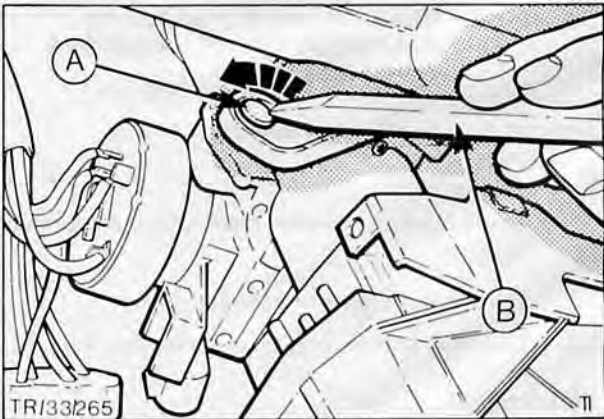

Fig. 33. Chiselling-out shear bolts to release lock
5. Using a suitable drift, (e.g. small chisel or pin punch), and a hammer tap out two 'shear' bolts securing ignition switch to steering column, Fig. 33.